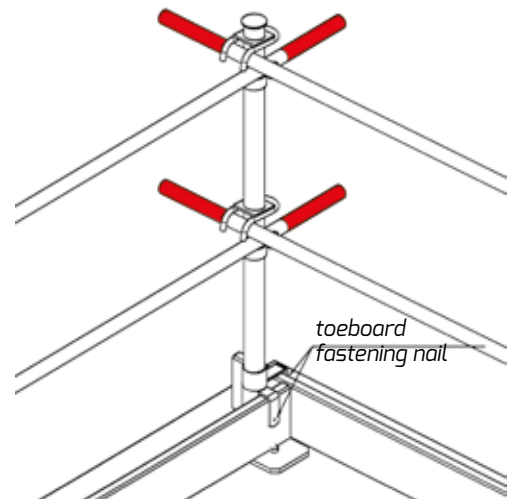

fig. 7 - Installation of the toeboard and railing in the corners
- The railing pipes should protrude beyond the supporting points (posts) by at least **200 mm**. Typical railing pipes are marked red over **200 mm** at both ends. This is the marking of the zone that protrudes beyond the posts (fig. 7 and 8).